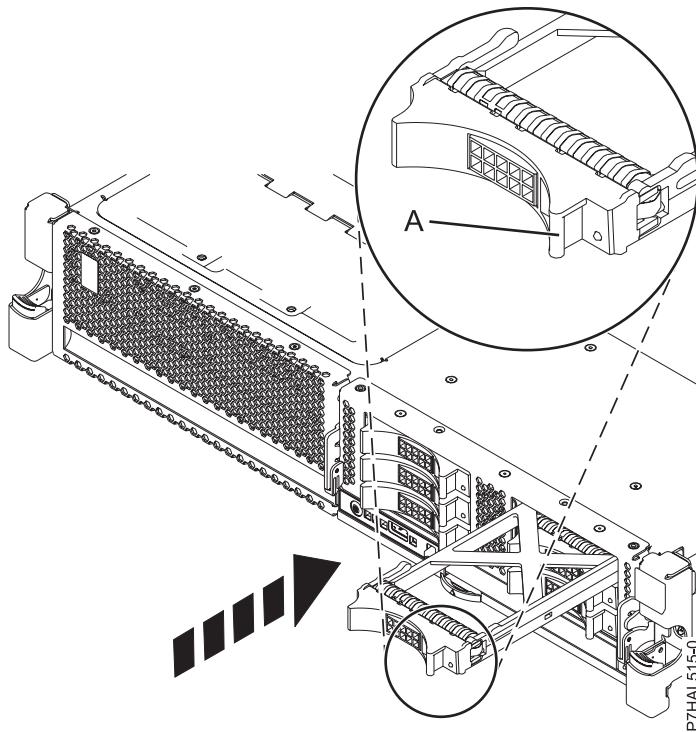

Figure 41. Installing a disk drive filler
2. Slide the disk drive filler all the way into the system or expansion unit, and push the disk drive filler handle (A) until it locks, as shown in Figure 41.